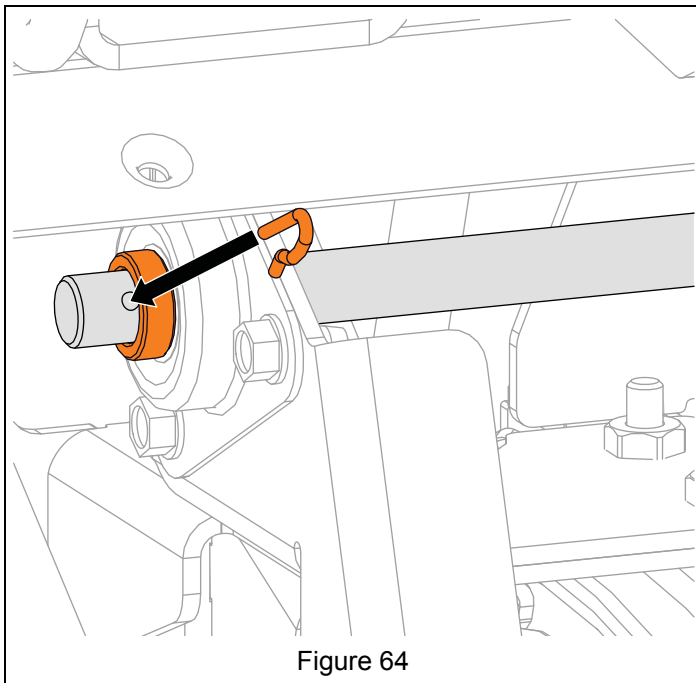

Figure 64
5. Position reduction shaft as far left as possible and reinstall sleeve bushing and spring clip. See Figure 64.
10. Remove shear bolt from auger shaft. See Figure 64.